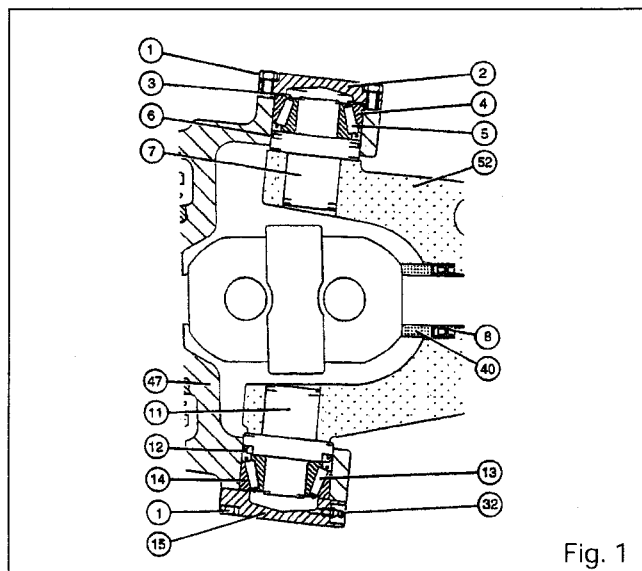

Fig. 1
**Removing swivel housings (Figures 1 and 2)**
8. If necessary, remove the seals (8) and O-rings (40) (Fig. 1).